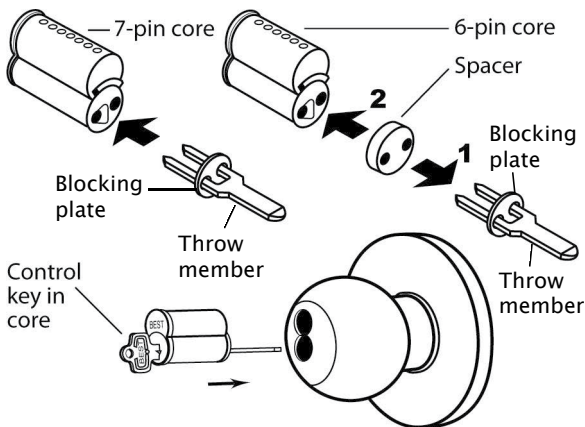

Figure 11 Installing the figure-8 core
**For 6-pin core users only:** Slide the spacer — supplied with your 6-pin core — over the 7-pin throw member (see Figure 11, top right).
- 1 Install the throw member into the back of the core as shown in Figure 11, top.
- 2 Insert the control key into the core and rotate the key 15 degrees to the right.
- 3 Insert the core and throw member into the knob with the control key as shown in Figure 11, bottom.
- 4 Rotate the control key 15 degrees to the left and withdraw the key.